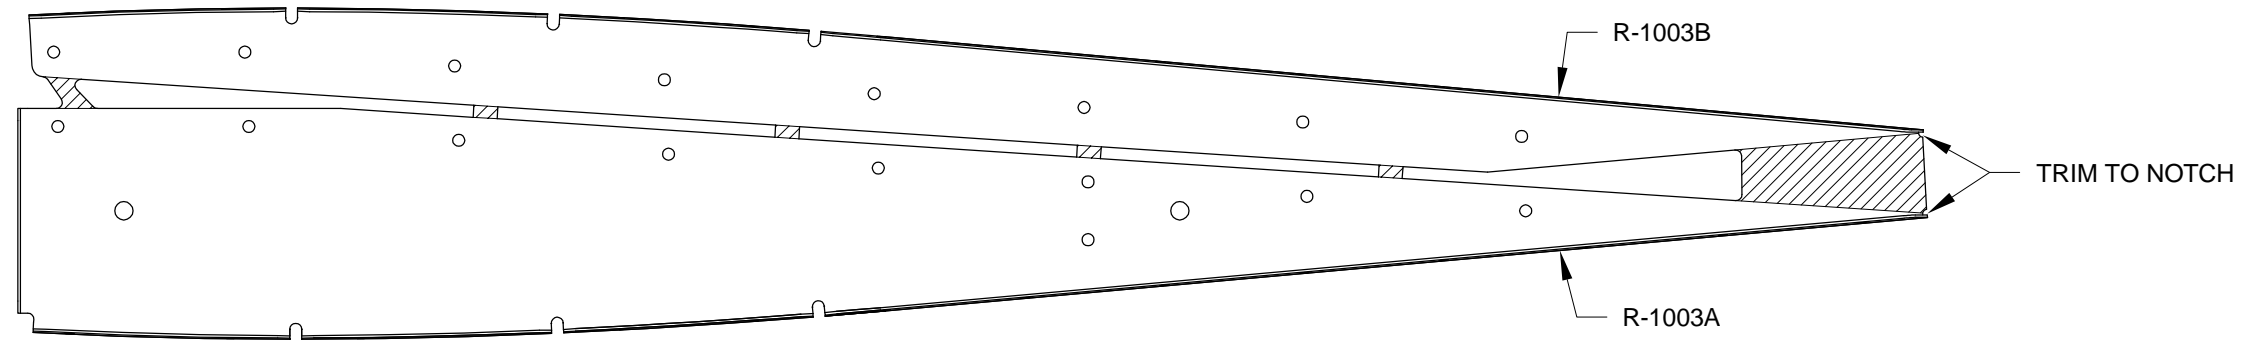

FIGURE 1: TOP RIB PARTS SEPARATION
Step 1: Separate the R-1003 Top Rib parts, shown in Figure 1, into individual components: the R-1003A and R-1003B. The shaded areas shown in the figure should be completely removed. Deburr all edges to prevent scratching during fitting.